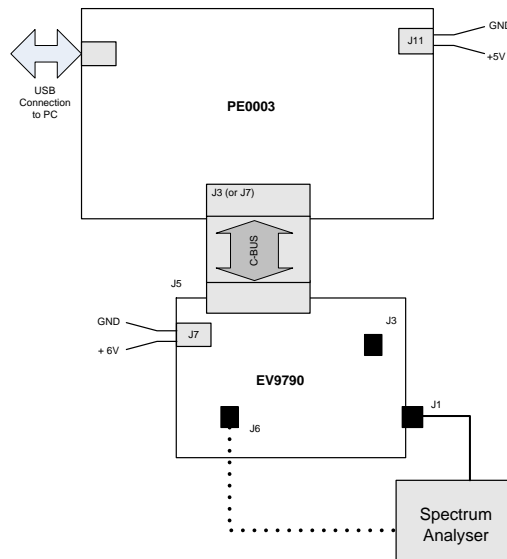

Figure 3 Typical Evaluation Connections for EV9790
1. Connect the boards as shown in Figure 3.